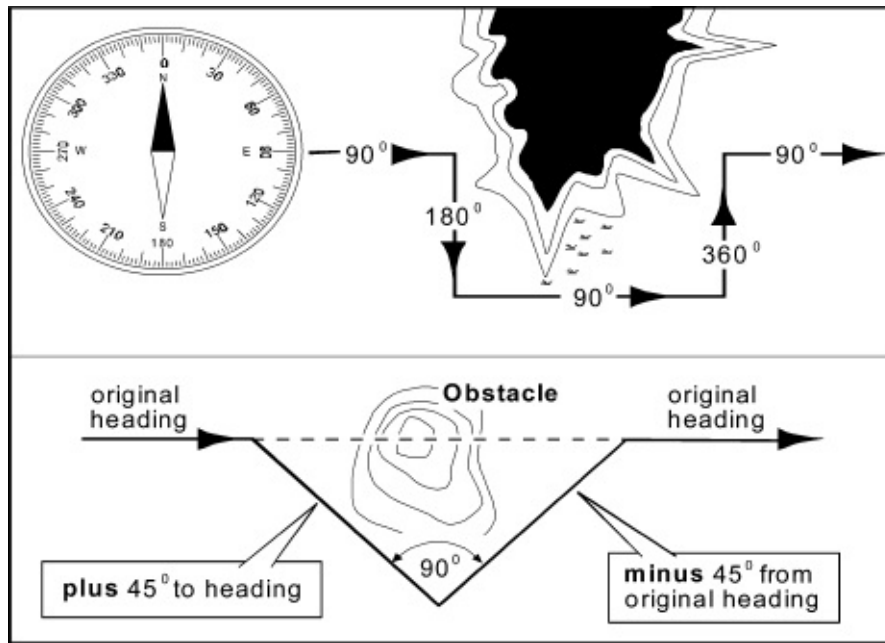

Figure 2-9. Dogleg and 90 degree offset
(1) Circumnavigation.
- (2) Dogleg and 90 degree offset (**Figure 2-9**).
- (3) Straight-line heading as follows: